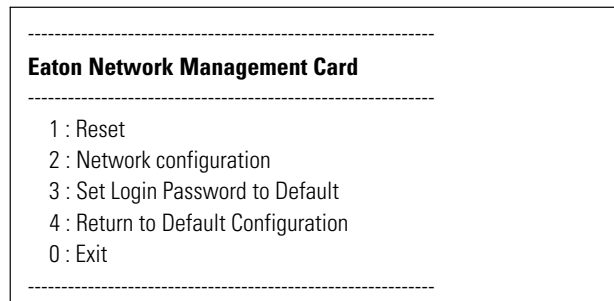

Figure 44. ConnectUPS-MS Web/SNMP Card Main Menu
3. Enter the **admin** password (not modifiable). The ConnectUPS-MS Web/SNMP Card main menu displays (see Figure 44).